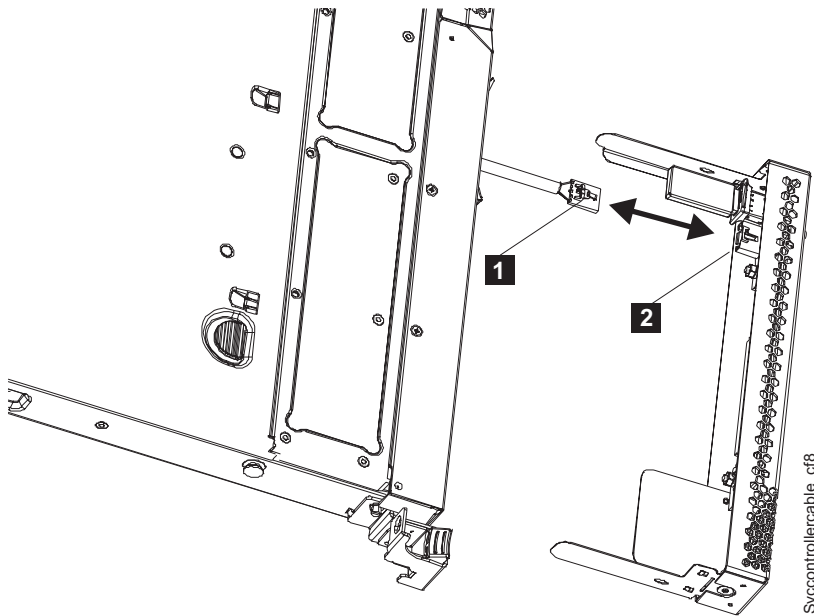

Figure 74. Removing and replacing the USB cable in the SAN Volume Controller 2145-CG8 or 2145-CF8 service controller
- a. Disconnect the USB cable (**1** in Figure 74) from the service controller (**2**).
- d. Install the other end of the USB cable in the USB connector (**2** in Figure 74 on page 88) on the rear of the service controller.